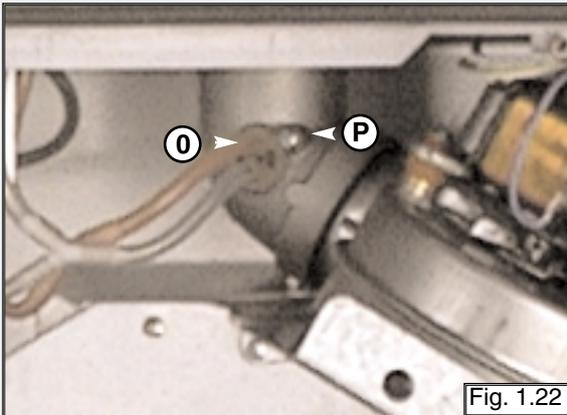

Fig. 1.22
1. Disconnect the silicone pipes "O" and remove the screw "P" (see fig. 1.22);